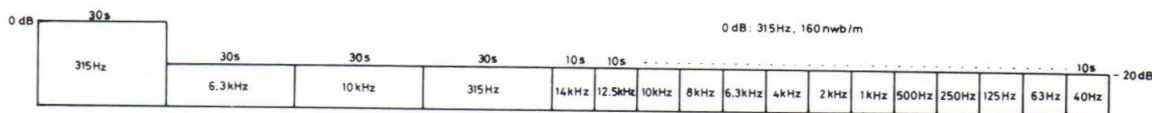

Fig. 11-5 Contents of the test tape STD-331B
- STD-331B : Playback adjustments (See Fig. 11-5)